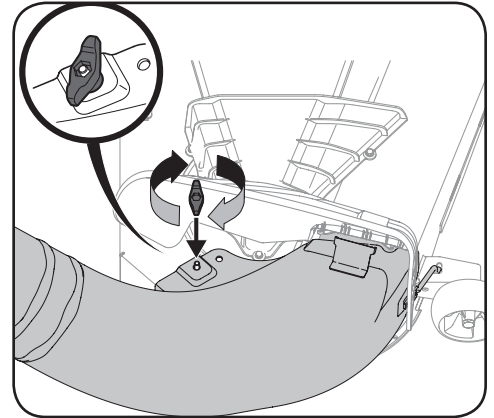

Figure 4-17
- Secure the discharge chute elbow to the cutting deck using a wing knob (720-04122) included with the bagger kit. Refer to Figure 4-17.